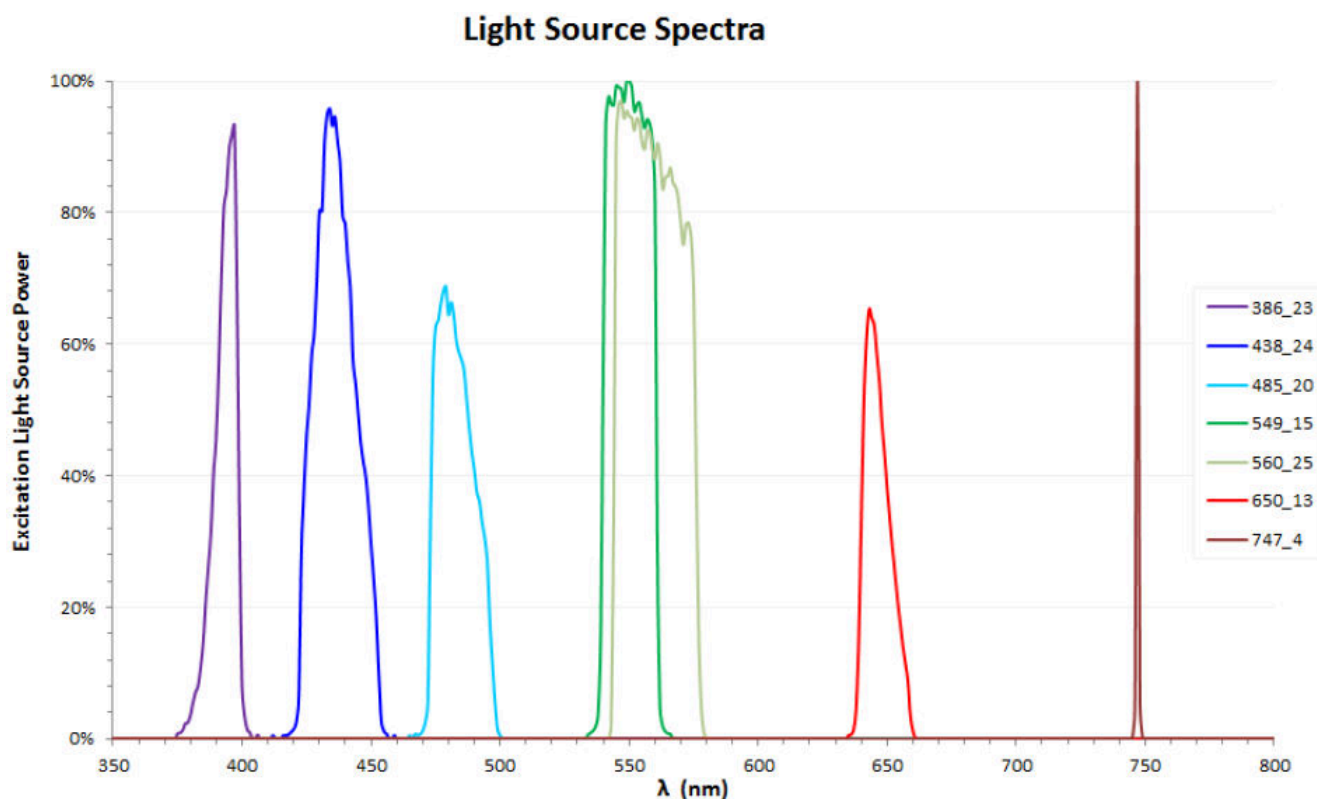
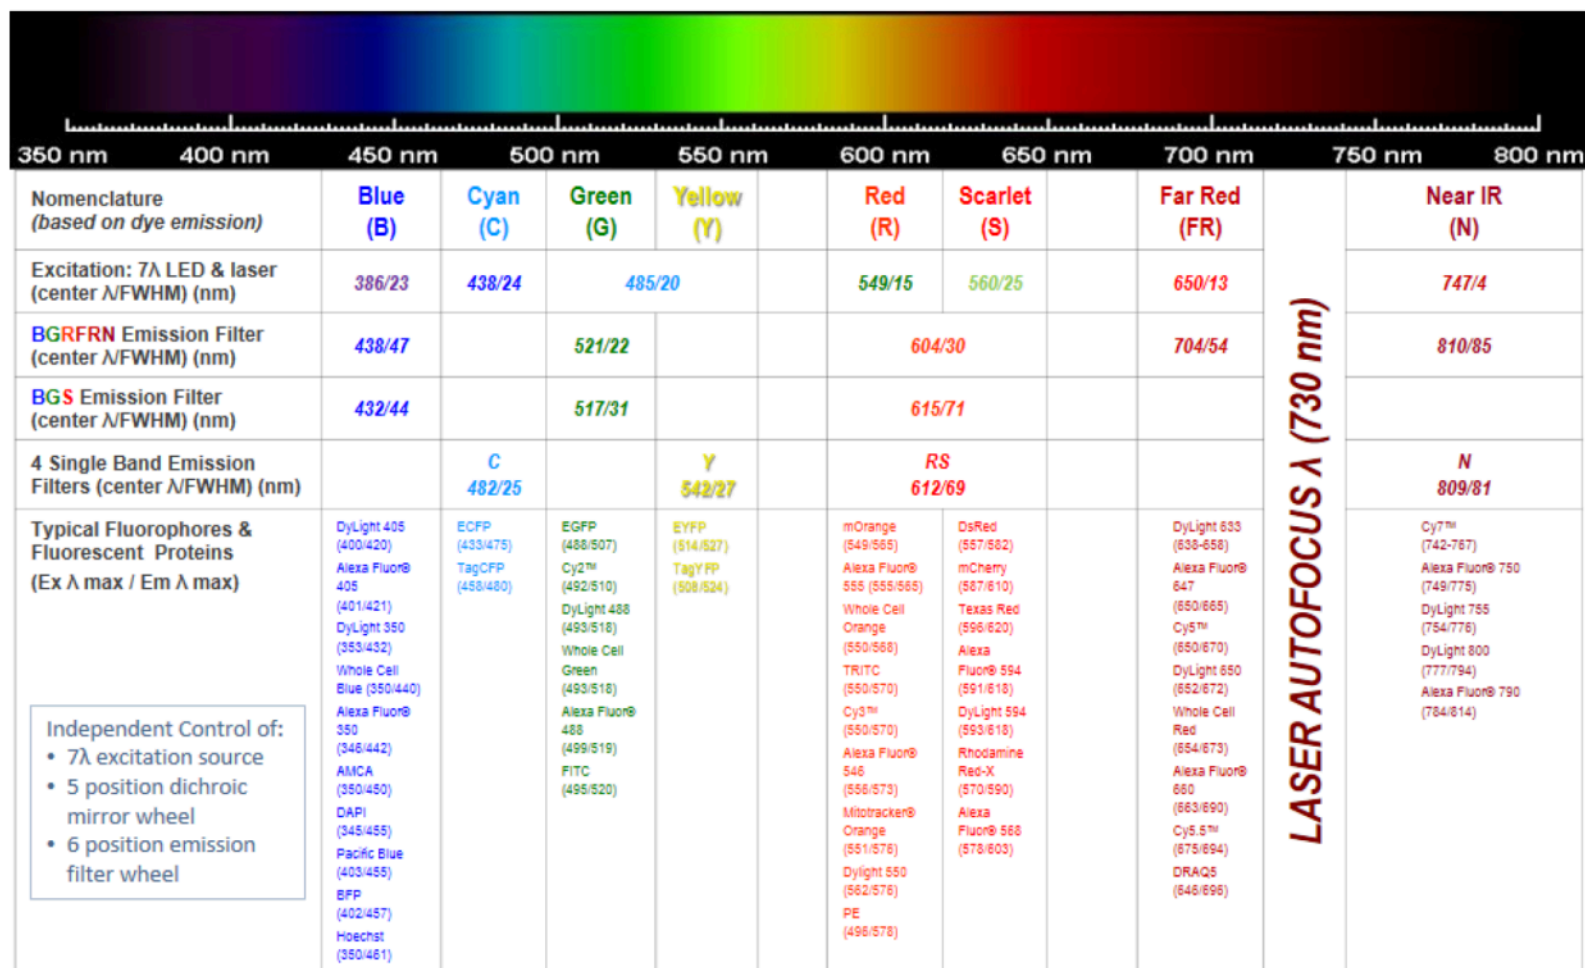

Figure 41 Spectral power output from the 7-color excitation light source
Figure 42 7-color basic spectral capability of the CellInsight™ CX7 Pro HCS Platform
The instrument has a 7-color light source for fluorescence excitation; the 6 lower excitation wavelengths are generated from LEDs, and the 747 nm excitation is from a laser diode. Each color generated from the LEDs is further conditioned by an internal emission filter before being emitted from the light source. The use of LEDs with internal excitation filters eliminates the need for additional excitation filter wheels in the light path. The excitation light source has been purposely built for these seven colors, which range from the ultra violet (UV) to the near infra-red (NIR). Figure 41 shows the spectral power output of the seven emitted colors from the light source – each color is described by the center wavelength, and the FWHM (full width of the half maximum) of the emitted spectral band. For example, 386_23 refers to exciting the sample with 386 nm light with a 23 nm band. The spectral power output from the 6 lower wavelength LED lines are normalized. Note that the excitation filters cannot be changed to broaden the range of excitation using the LED light source; nonetheless these seven colors can excite a broad range of fluorescent probes, giving you a lot of options and flexibility in choosing fluorescent dyes (Figure 42).
The nomenclature convention that is used to describe the different excitation-dichroic mirror-emission filter combinations is based on the fluorophore emission colors that this system supports – i.e., blue (B), cyan (C), green (G), Yellow (Y), red (R), scarlet (S), far red (FR), and near-infra-red (N). The wavelength ranges of these colors are shown in Figure 42. The naming convention specifies the LED, dichroic mirror, and emission filter combination. For example, 386-23_ BGRFRN_ BGRFRN refers to exciting the sample with 386 nm light with a 23 nm band, and using the penta-band dichroic mirror along with a penta-band emission filter that transmits blue (B), green (G), red (R), far red (FR), and near-infra-red (N) light. Likewise, 438-24_C_Y refers to exciting the sample with 438 nm light with a 24 nm band, and using the single-band dichroic mirror that transmits cyan (C) light and emission filter that transmits yellow (Y) light. All filter combinations that work (i.e., do not cause bleed through of excitation light) are available, in either the basic or advanced spectral configurations.
Figure 42 summarizes this instrument's basic spectral capability; where for each of the 7 colors, it shows the excitation wavelength and range from the excitation light source, the emission filter transmission band for that color, and common fluorescent probes for that color channel. Note that the fluorescent probes, proteins and fluorophores are a representative set used as an example. There are many other fluorescent probes that could be used. The specific excitation light source, dichroic mirror, and emission filter combinations that are available in the basic configuration, and that enable the imaging of the range of fluorophores shown in Figure 42, is laid out in Figure 43. Figure 44-Figure 46 show the normalized excitation powers and the transmission traces of all the basic filter combinations.